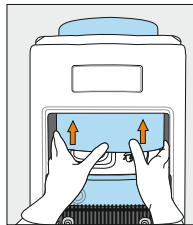
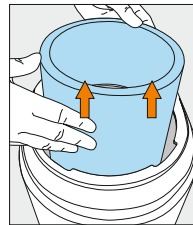

Figure 20
Figure 21
4. Using fingers of both hands to lift up and remove the insulation jacket covering the reservoir, from the cooler opening (Figure 20 and Figure 21)